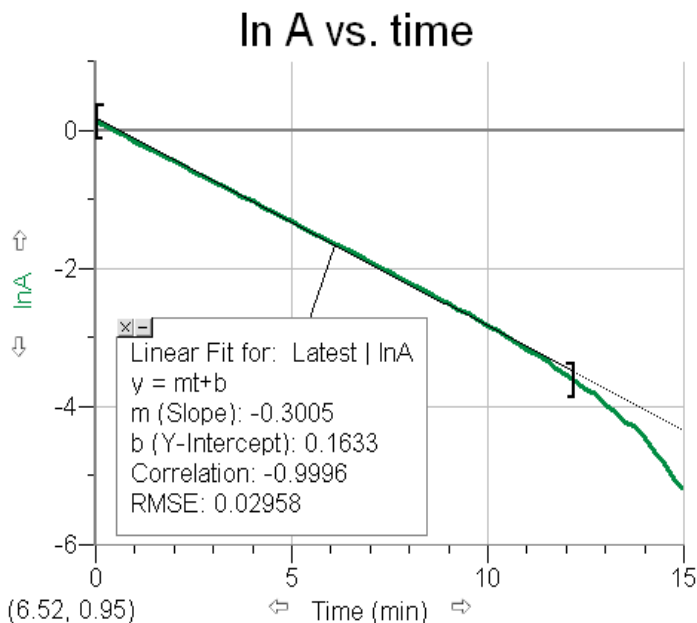

Figure 5. Kinetics plot with a shortened time range. The κ_{∞} offset used was too large producing curvature at the very end of the plot.
- f. The very long-time behavior of your plot may be noisy and may have some curvature, Figure 5. This curvature may be caused by not knowing the exact κ_{∞} . You can narrow the range for the linear curve fit by dragging the] at the right-hand side of the plot. However, keep the fitting interval as wide as possible. (If the] handle isn't showing, remove the current curve and fit again.) Use the same time interval when comparing the curve fit for the $1/A$ vs. time plot, to make a fair comparison. Alternatively, you can adjust the κ_{∞} value in the calculation for the A column to get a longer linear range. You can edit the formula for a column by double clicking the column label in the data table. Adjusting the offset also makes a fair comparison, since the same offset is used in both curve fits. However, make sure that this infinite time value makes sense (i.e. estimate κ_{∞} by eye and check your result). Choosing an incorrect κ_{∞} value can distort the data plots so that you end up choosing the incorrect order.